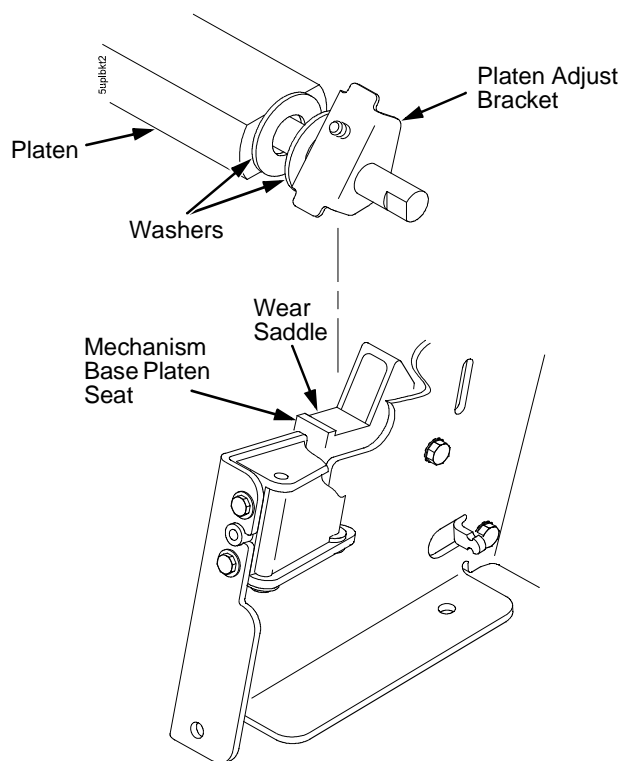

Figure 29. Positioning the Platen Adjust Brackets
4. Make sure the two wear saddles are set flush into the corners of the mechanism base platen seat. (See Figure 29 below.)
8. Insert the shorter platen shaft through the left platen adjust bracket and through the opening in the left side plate. Rotate the longer shaft into the opening in the right side plate and position the platen adjust brackets as shown in Figure 29.